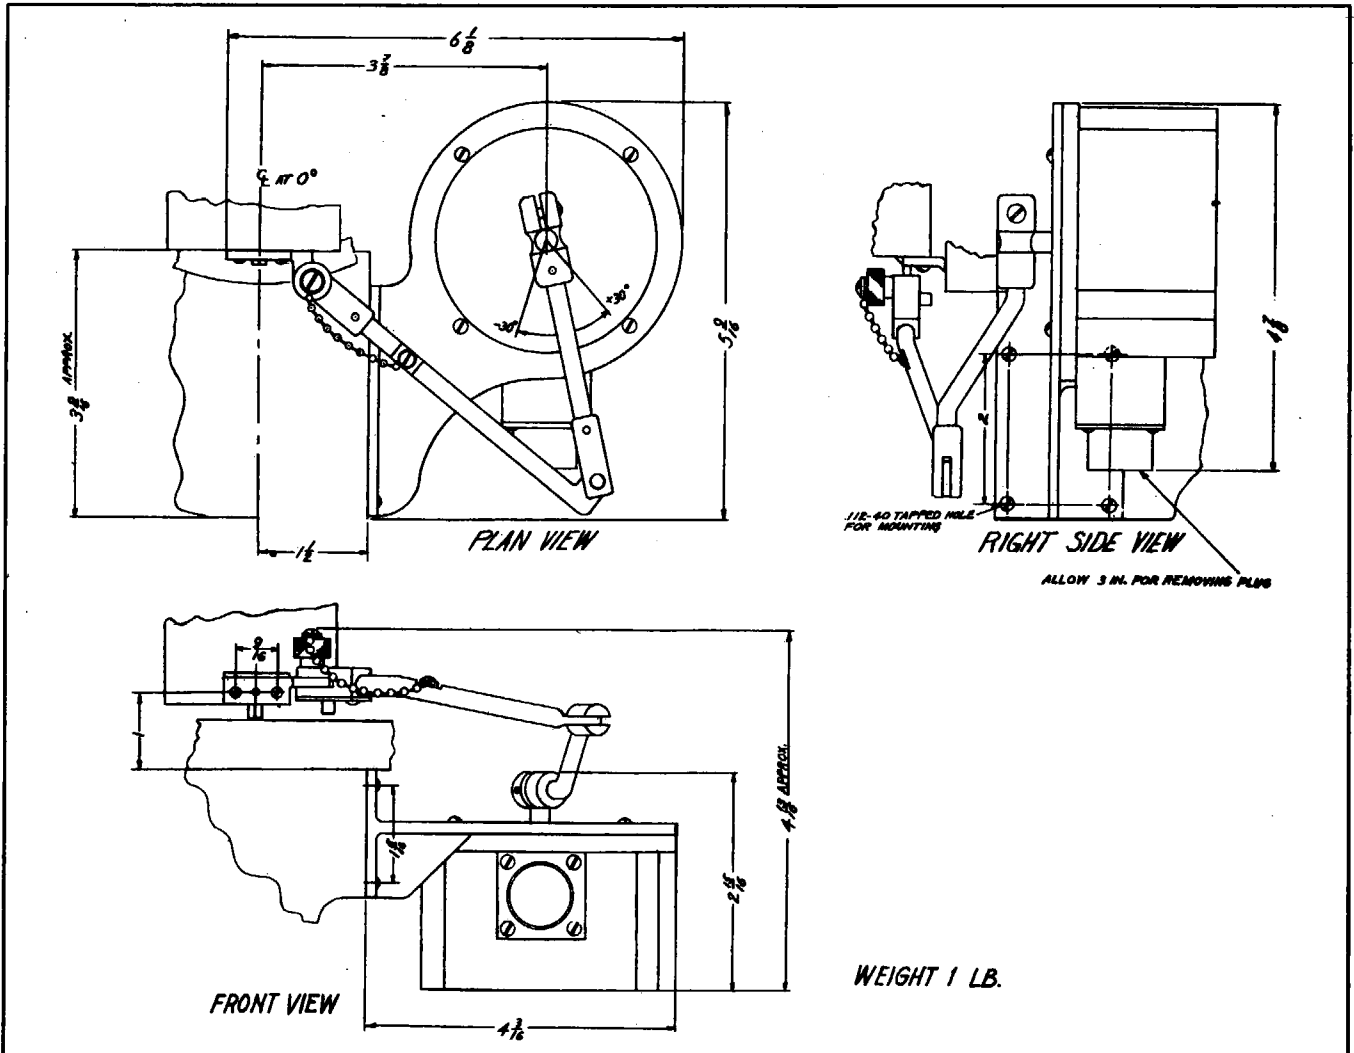

Figure 2-9. Compensator CN-1/APQ-5—Outline Dimensions
(8) COMPENSATOR CN-1/APQ-5.—Mount the compensator on the right-hand side of the stabilizer. The mounting bracket is mounted on the side of the stabilizer with the screws already furnished for attaching the side plate, while the compensator index is mounted in place of the existing index, using the same screws. (See fig. 2-9.)
(9) JUNCTION BOX J-1/APQ-5 AND CAPACITOR UNIT MX-1/APQ-5.—In earlier models of this equipment, Capacitor Unit MX-1/APQ-5 is combined with the junction box and with the precision capacitors mounted on a removable tray. Remove the capacitor unit from the airplane when it is on the ground when the temperature exceeds 68°C (155°F). To permit removal of the